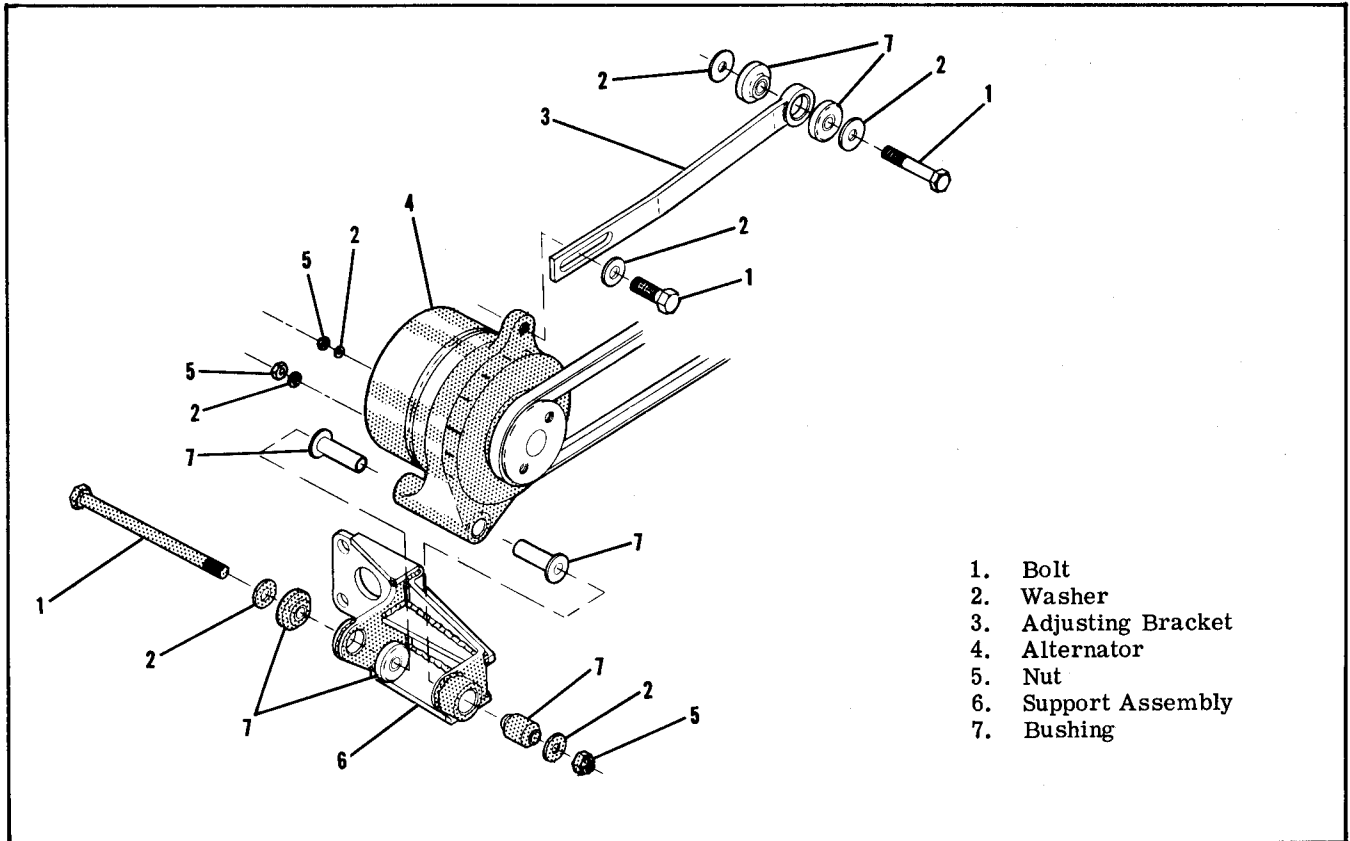

Figure 17-4. Alternator Installation
**ALTERNATOR.** (See figure 17-4.)